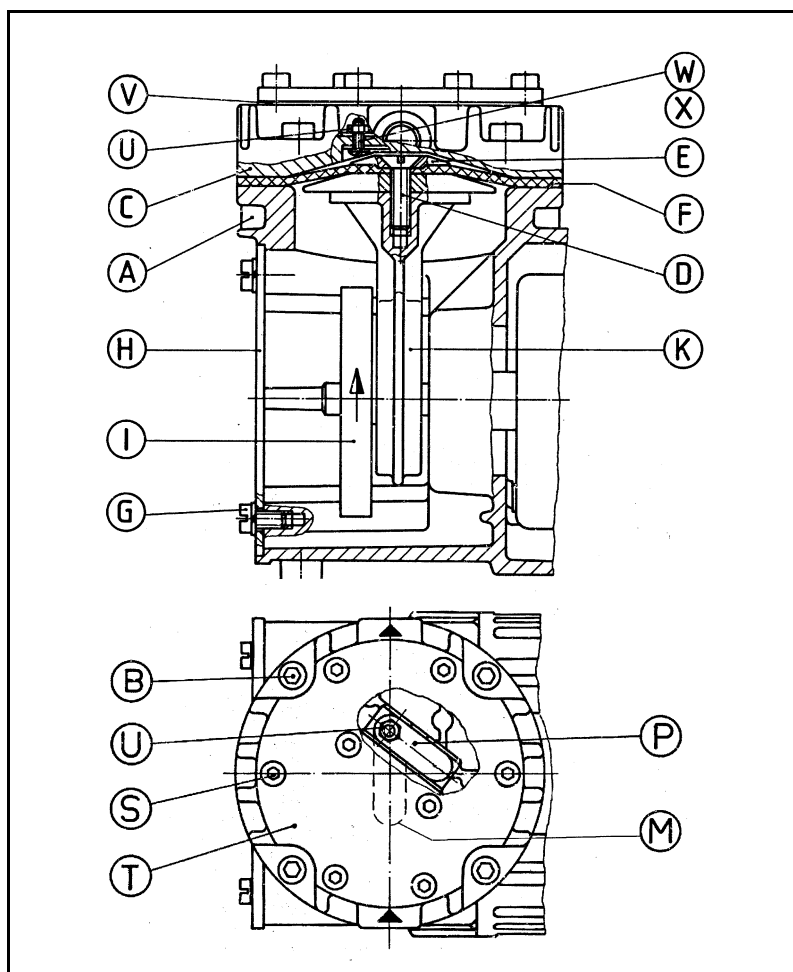

Fig. 6: Pump parts for versions with aluminium head
\*\*According to Fig. 6.
After diaphragm and reed valves (valve plate) have been replaced	→ Check head connection and hose connections for leaks. → Possibly carefully tighten the screws (B) and (S) (see fig. 6) crosswise.
\*According to Fig. 6